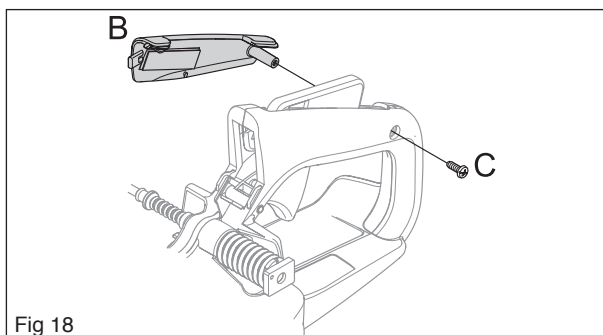

Fig 18
Dismantle the handle insert (B) by loosening the screw C on the handle (see figure 18).